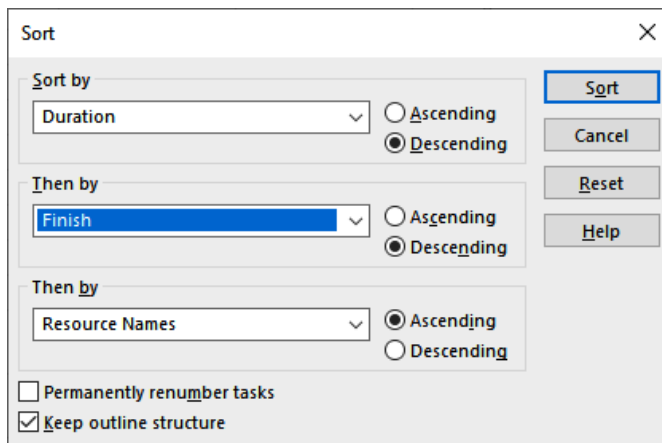

Figure 14.21 – Sorting configuration for the current exercise
- **What if I want to permanently alter the sequencing of my tasks according to my sort order?** In the **Sort** dialog box that we used in the previous exercise, as shown in *Figure 14.21*, enable the checkbox labeled **Permanently renumber tasks**. Be careful: there is no going back—all the tables and views will be affected.